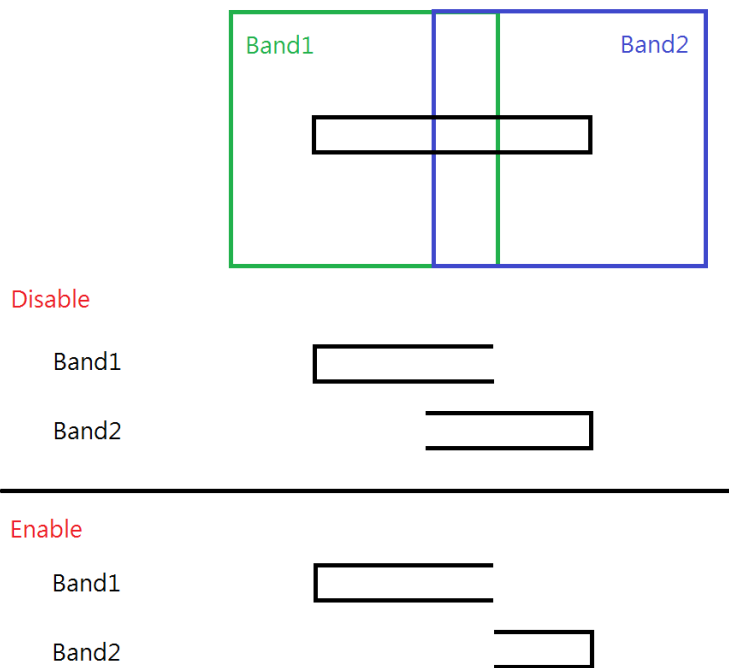

Fig. 3.1.14
**Avoid duplicate marking:** Make sure will not mark same object twice. See fig. 3.1.14.